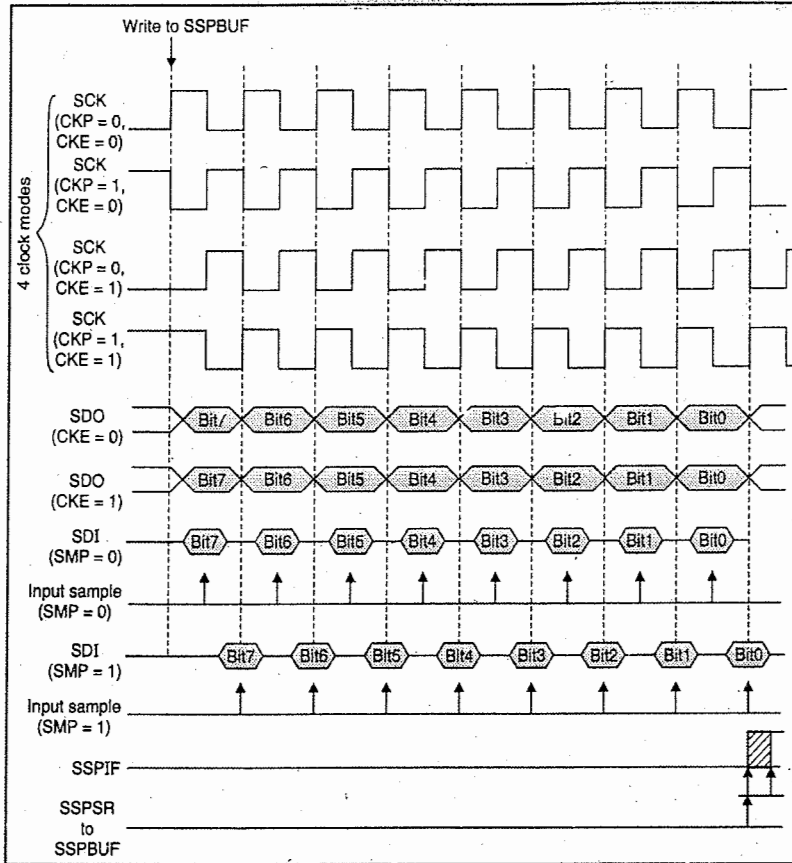

Fig. 12.9.5 : SPI Mode waveform (Master mode)
- By programming the CKP bit the clock polarity is selected. Fig. 12.9.5 shows the SPI waveform for master mode. The MSB is first transmitted as shown in Fig. 12.9.5.
- However, actual clock edge selection is done by combining the CKE and CKP signals. This gives us 4 clock modes as shown in Fig. 12.9.5. Generally the idle low clock state is used.